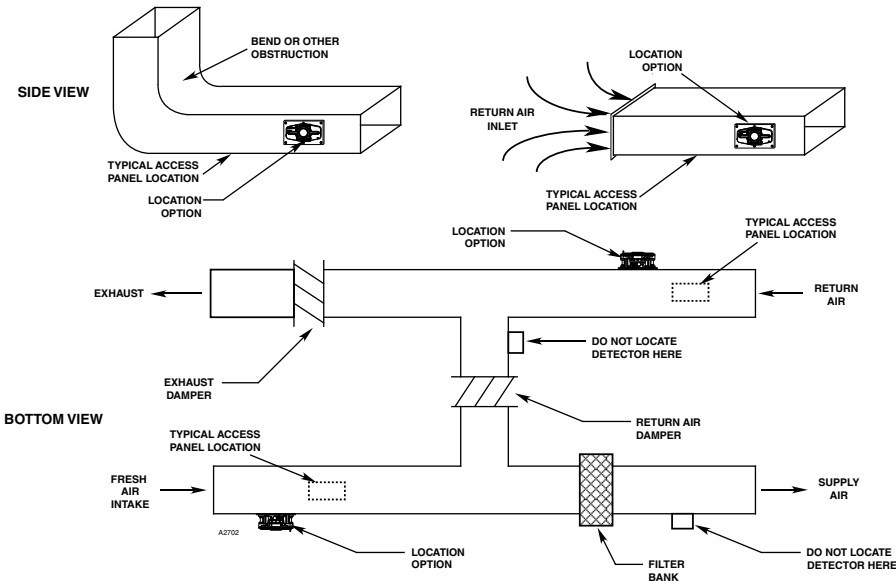

Figure 3—Q5017R Placement in duct
1. The Q5017R duct accessory should be installed in an easily accessible location approximately six ducts widths from bends, duct openings, or deflection plates (see Figure 3). These locations provide fairly uniform, non-turbulent air flow. If no access panel is present at the desired mounting location, an access opening will need to be created above or adjacent to the installation point to facilitate attachment of the Q5017R to the duct wall.